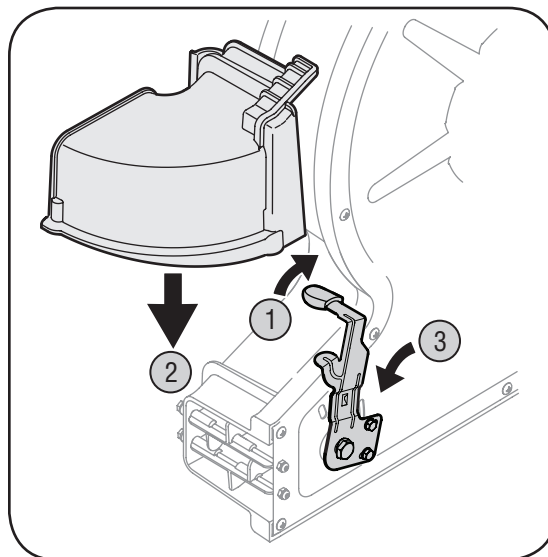

Figure 3-3
1. Raise blower direction lever to the highest position. See Figure 3-3.
3. Lower blower direction lever to middle position to lock chute attachment. See Figure 3-3.